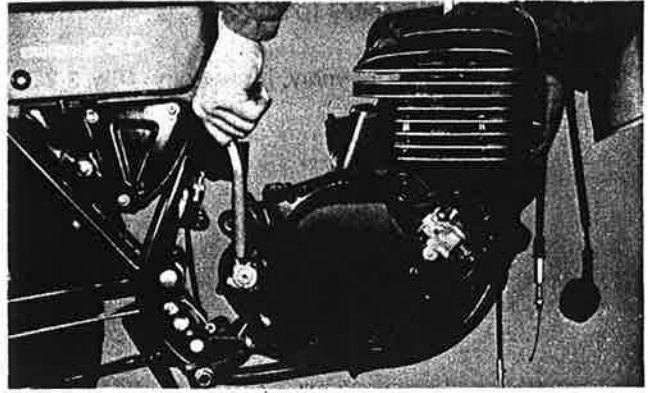

Fig. 3-1-23
2. Remove engine from right side of frame. (Fig. 3-1-23)